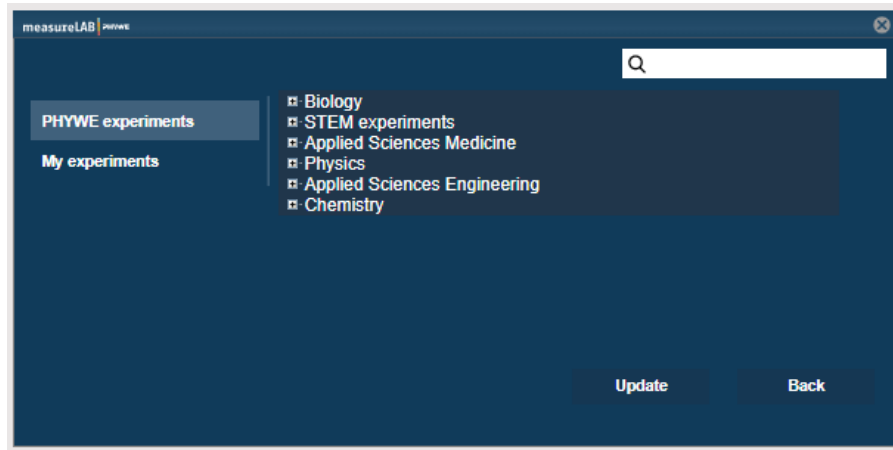
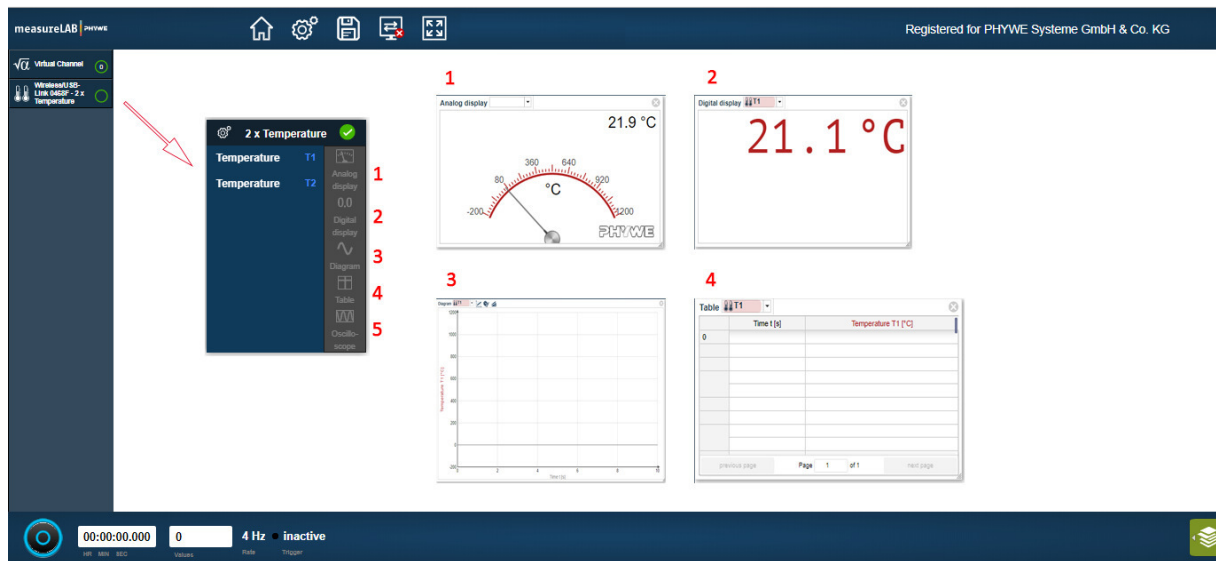
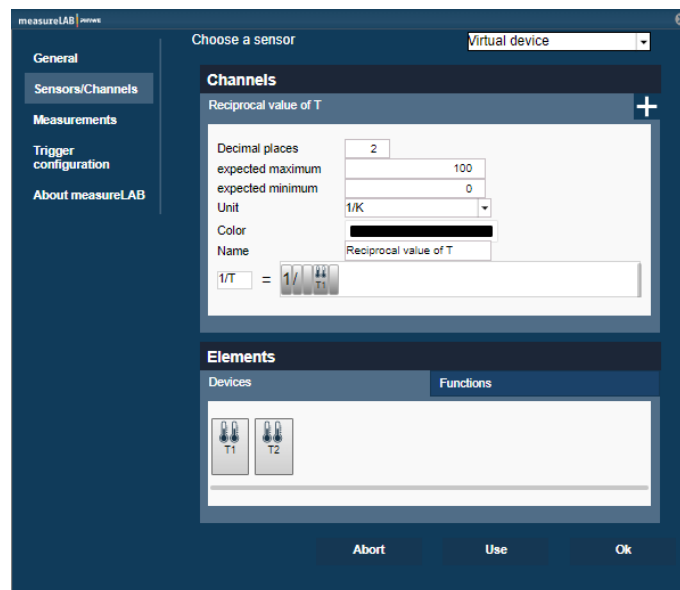

Figure 2: Load experiment
Figure 9: First measurements - Channel options
Figure 11: Virtual channels
On the left-hand side of the main window (Figure 9), you will find the connected sensors and the virtual channel. By clicking on the individual sensor, a second window displaying the sensor's parameters. You can choose a single parameter or multiple parameters, once the parameter is highlighted in light grey, you can choose to display the parameters as an analogue display (1), a digital display (2), a diagram (3) or a table (4). For suitable sensors, you can also display an oscilloscope diagram (5).
For live measurement of converted channels (e.g. the reciprocal value of the temperature), you can use the option 'virtual channels' (Figure 2). Click on 'virtual channels' on the left-hand side and add a new virtual channel by clicking on the plus symbol. In the virtual channel settings, you can designate expected maximum/minimum, unit, colour, symbol and a name for your virtual channel. Under devices, you will find all connected sensors/parameters and under functions you will find all available functions to convert your channel recordings (Figure 11). Similar to sensor channels, you can select your created virtual channel and display it as analogue or digital display, diagram or table (Figure 9).